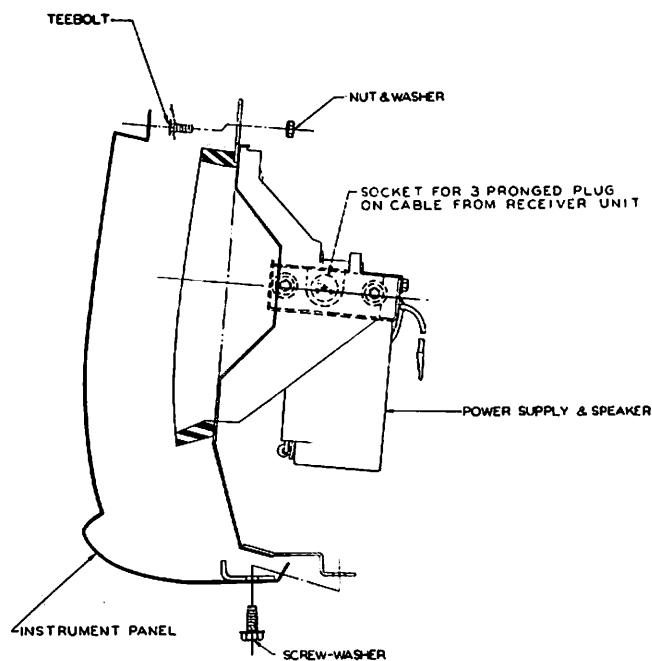

Figure 3
6. Snap the "tee" bolts to upper flange of instrument board on right side for mounting radio speaker and power supply. See figure 3.